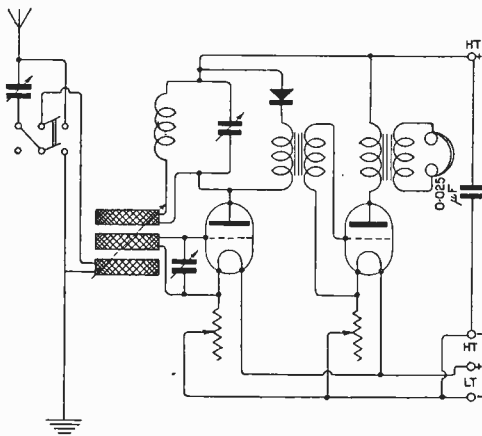

Fig. 2.
where L is the inductance of the frame aerial in microhenries, and C is the capacity of the condenser in microfarads. Given the wavelength and the capacity, the value L may be calculated directly without difficulty. To increase the wavelength range of the aerial circuit you should add a few more turns and bring them to a switch for putting them in or out according to the wavelength desired. We suggest 18 turns, or you could increase the size of the frame to 4' 6", and use 15 turns with tappings. When using a frame aerial, it is generally better to use a number of H.F. valves, depending upon the stations whose transmissions you wish to receive. We suggest the use of 2 H.F., 1 detector, and 1 L.F. valves when the stations are rather far distant. For broadcast reception we think 1 H.F., 1 detector and 1 L.F. connected valves will be quite suitable. (2) A suitable scheme of connections is given in Fig. 2. The first valve is connected as a H.F. amplifier. A crystal detector